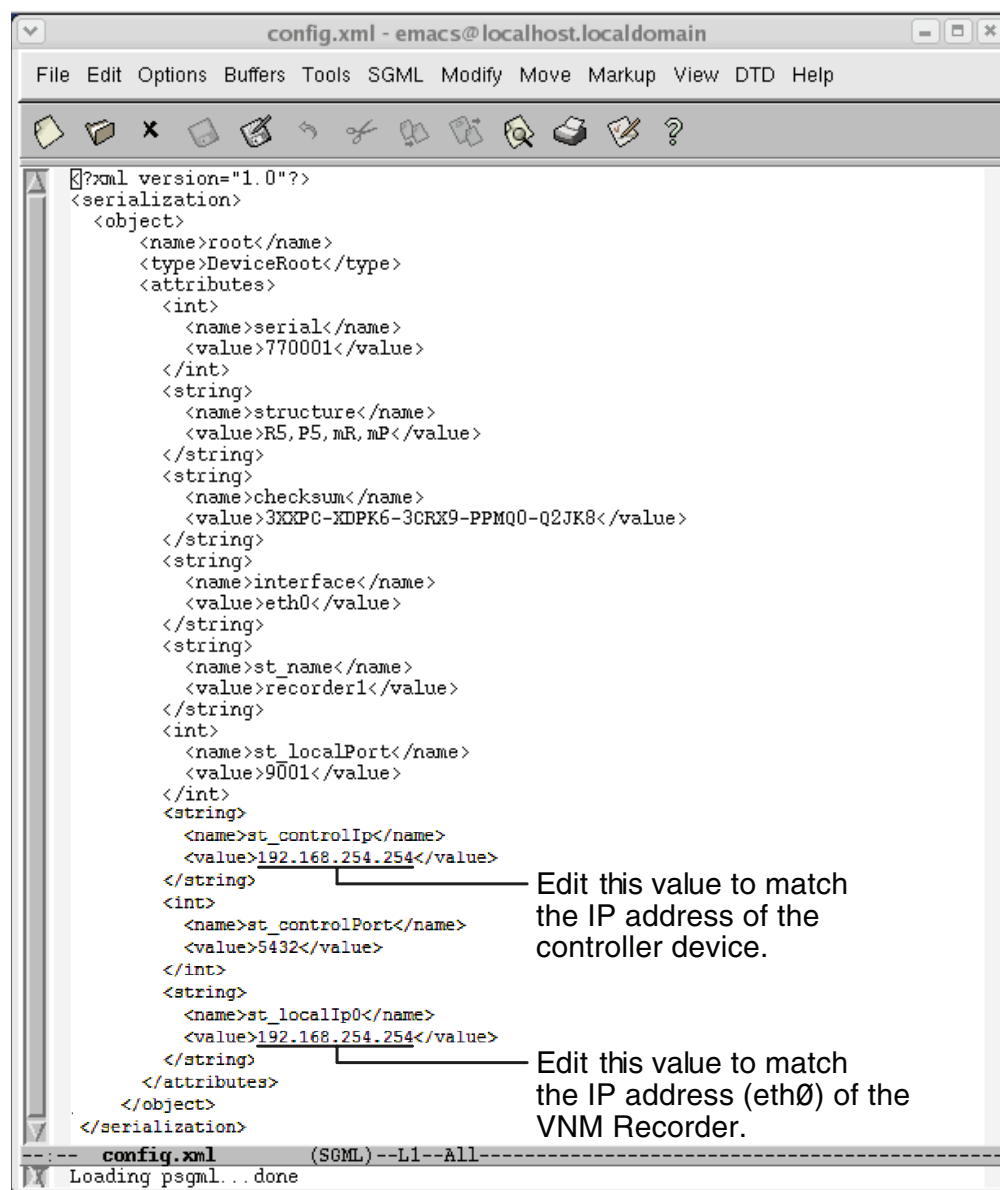

Figure 16. Config.xml Text Window
4. Click on the **config.xml** file to select it (⑥).
7. Near the bottom of this file are two values named `st_controlIp` and `st_localIp0` with an IP address listed under each (see figure 16). Edit these values as follows.